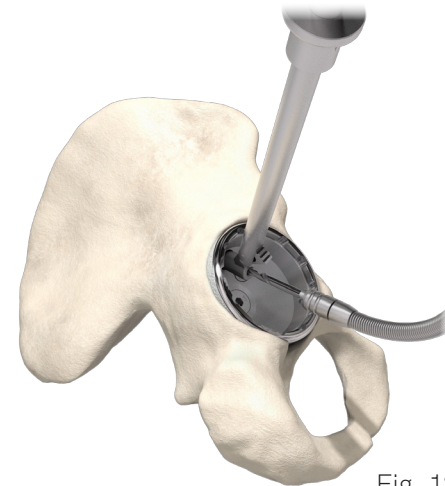

Fig. 12
3. Locate the drill guide inside and central to the selected screw hole ensuring it is fully seated before drilling. The drill guide can be tilted to give the desired drilling angle (Fig 12).